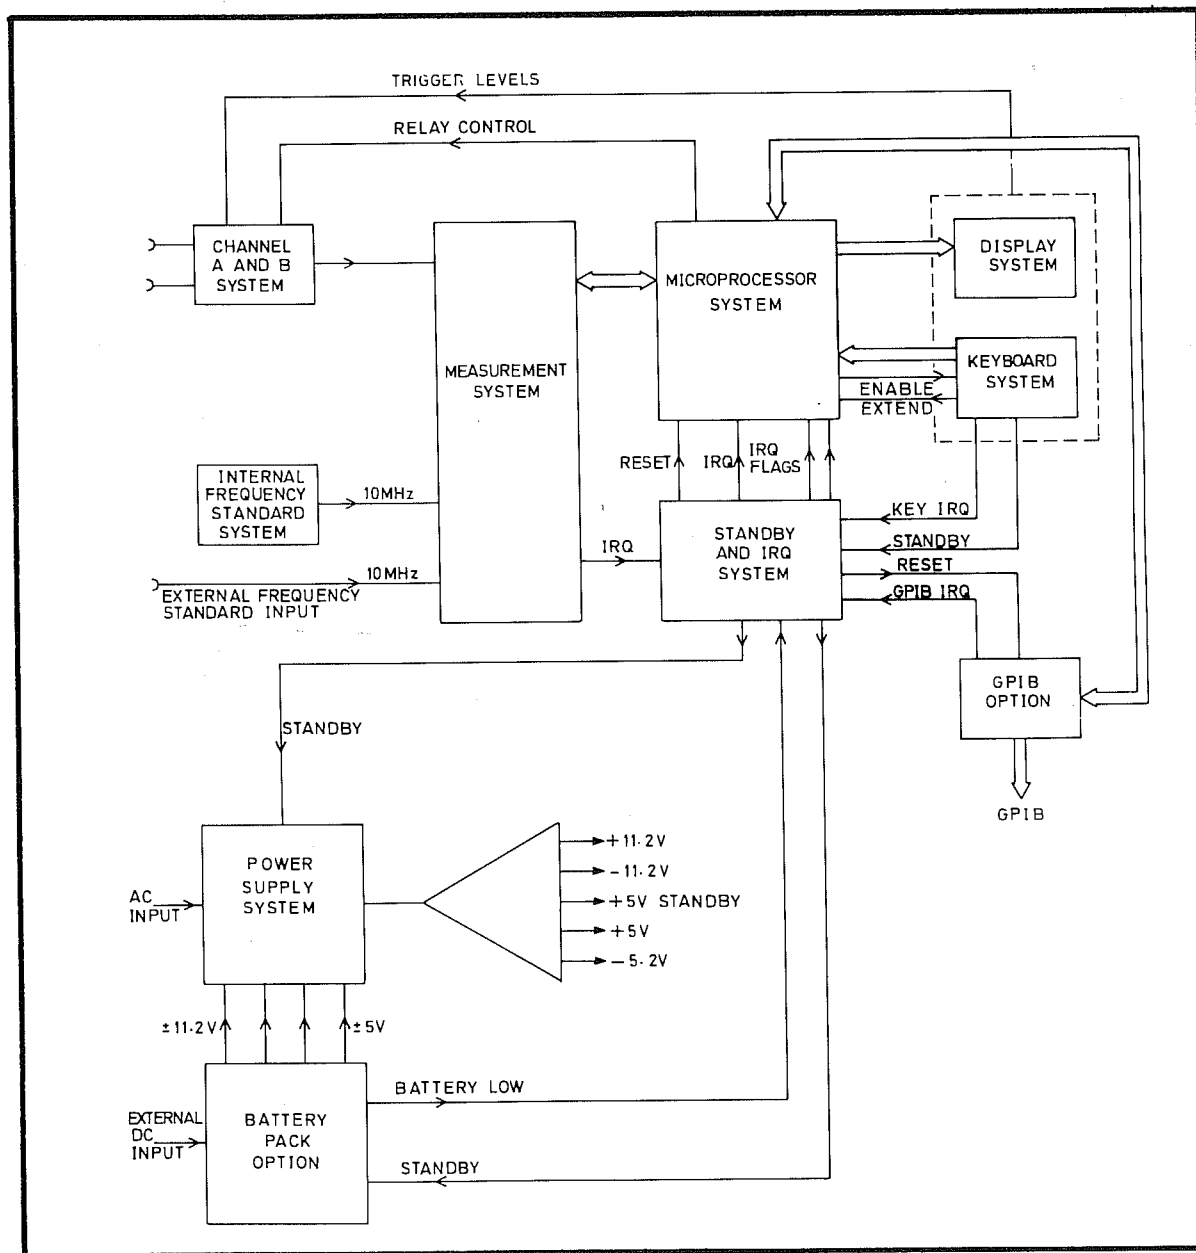

Fig 6.1 Functional Block Diagram
- (1) The channel A and channel B system.
- (2) The measurement system.
- (3) The display system.
- (4) The keyboard system.
- (5) The microprocessor system.
- (6) The standby and IRQ system.
- (7) The power supply system.
- (8) The frequency standard system.
- 4 The functional relationship between the systems is illustrated in Fig 6.1. The measurement system is internally configured by the microprocessor system according to the instructions entered via the keyboard or GPIB system. The signal to be measured and the signal from the frequency standard are fed to the measurement system. The measured result is passed to the microprocessor system. If mathematical manipulation of the result is required, this is performed by the microprocessor before the final output is passed to the display or GPIB system.